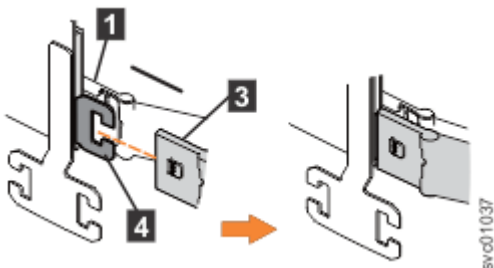

Figure 52. Install the outer connector of the upper CMA to the outer member of the support rail
3. Install the outer connector of the upper CMA assembly (**3**) to the outer member of the left support rail (**4**), as shown in Figure 52 on page 53.